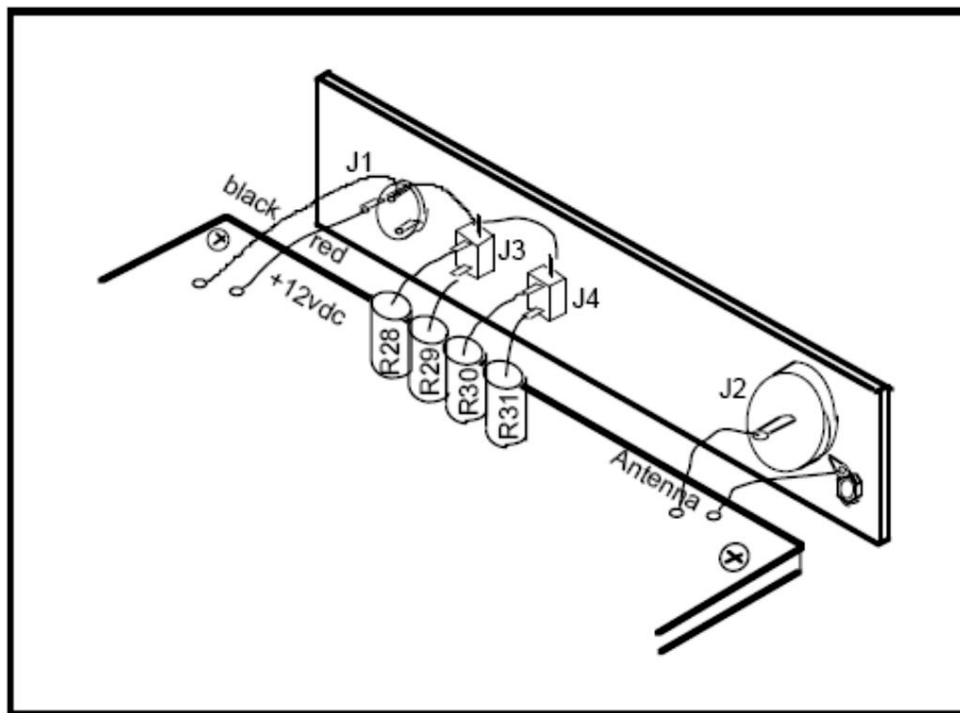

Figure 13. Rear panel wiring (resistor R32 not shown)
14. ☐ Install one end of each fixed resistor R28-R31 on the PC board. Leave about ¼ inch of lead between each resistor and the board. The other end of each resistor will be soldered later to the audio jacks (see Figure 13).
6. ☐ Install the red wire from the power connector to the PC board hole labeled +12 vdc (Figure 13). Install the black wire from the power connector to the ground hole on the PC board adjacent to the screw hole in the corner. The location of these wires on the PC board is easily seen in the X-ray view (Figure 4).
7. ☐ Complete installation of resistors R28, R29, R30 and R31 as shown in Figure 13. Leave a little extra lead length so that the resistor leads are not taut. First solder R29 and R31 on the bottom tabs of the two audio connectors. Then solder R28 and R30 to the top horizontal tabs as shown in Figure 13. Trim excess lead wires after soldering.